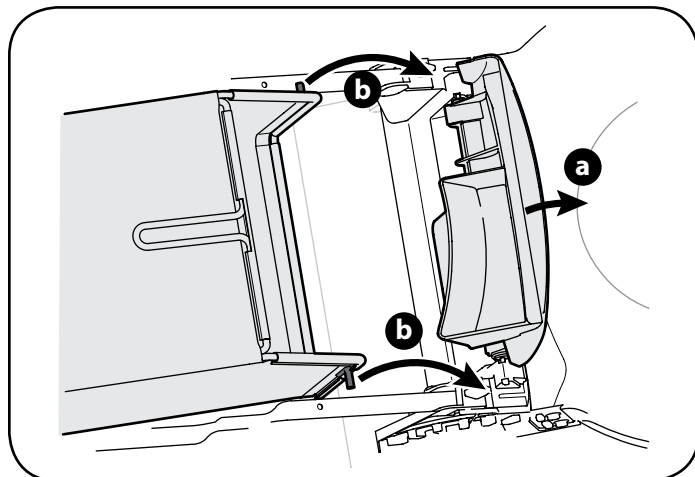

Figure 10
- b. Place grass catcher into the slots in the handle brackets as shown in Figure 10. Let go of discharge door so that it rests on the grass catcher.